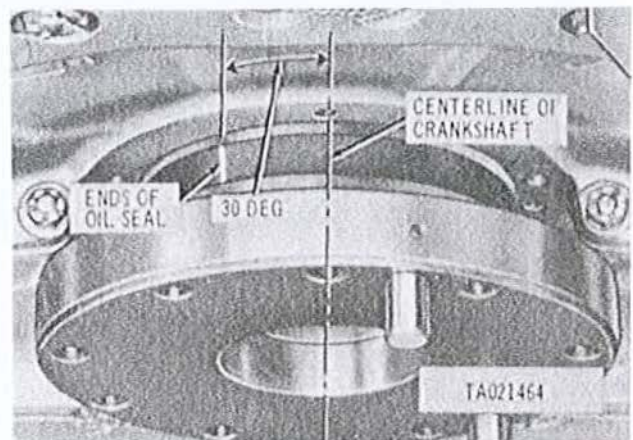

Figure 3-314. Current position of crankshaft oil seal split line before installing oil seal retainer.
c. The crankshaft oil seal was installed on the crankshaft during repair (fig. 3-171). Rotate the oil seal on the crankshaft until ends of oil seal join 30 degrees from centerline of crankshaft looking at the rear of the engine as shown in figure 3-314. This assists in controlling oil seepage past the split line of the oil seal.
The flywheel dowel pins (fig. 3-314) are so located that the flywheel can be installed on the crankshaft flange in only one position.